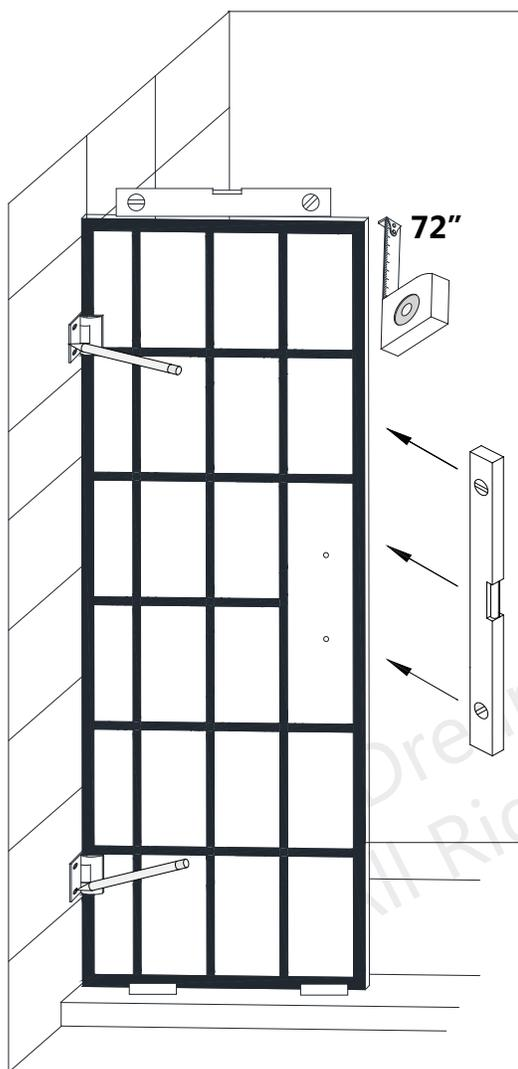

Fig 5a
5. Once the **Door Glass (#01)** is level and plumb, mark the location of the hinge plates and holes on the wall. Remove the **Door Glass (#01)** and drill $\text{Ø}1/4"$ holes up to the stud and $\text{Ø}1/8"$ pilot holes into the stud and let the screw bore into the wood. **DO NOT use Wall Anchors when installing into wood reinforcement.** (Fig 5a and Fig 5b)